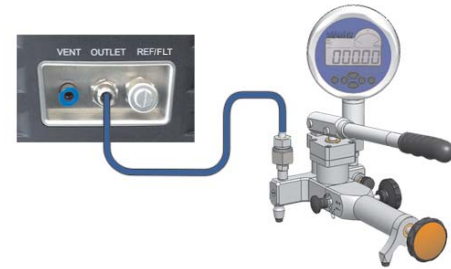

Figure 3-5 Pressure measure
- #### 2. Connection: Complete the pneumatic connection to the external pressure source as shown in Figure 3-5.